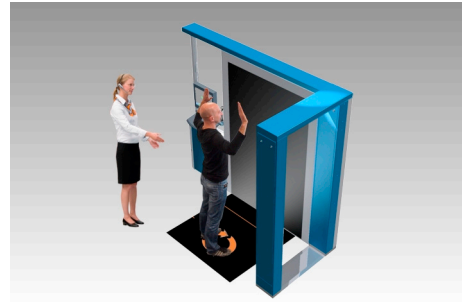

Fig. 73: Person standing in screening position
- ▷ Instruct the person to turn in slow motion through at least 360 degrees. Before they begin turning, they must raise their arms up as shown in Fig. 73.